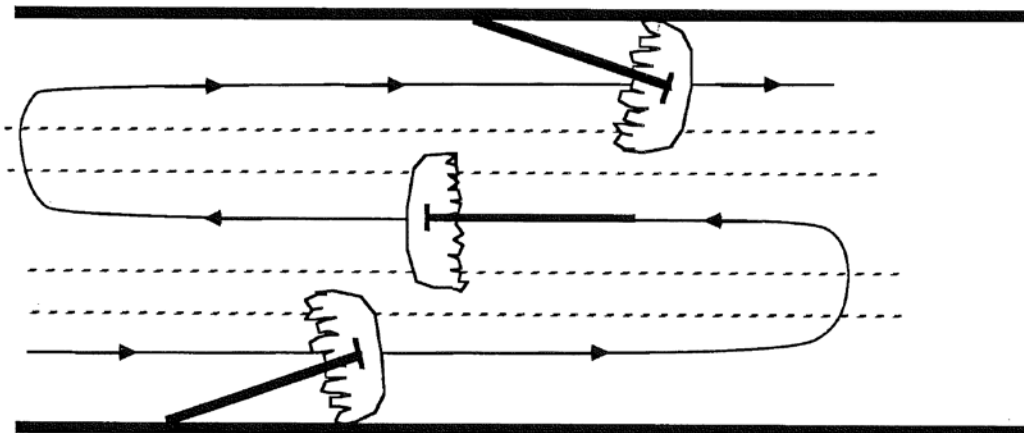

Figure 1 {Large hall dust mopping}.
3. In open areas, long continuous overlapping vertical strokes are recommended {Figure 1- Module A1, pg. 6}. In confined spaces, short, continuous side-to-side overlapping strokes are recommended. Rotating the dust mop on its swivel will enable the operator to maintain one leading edge.